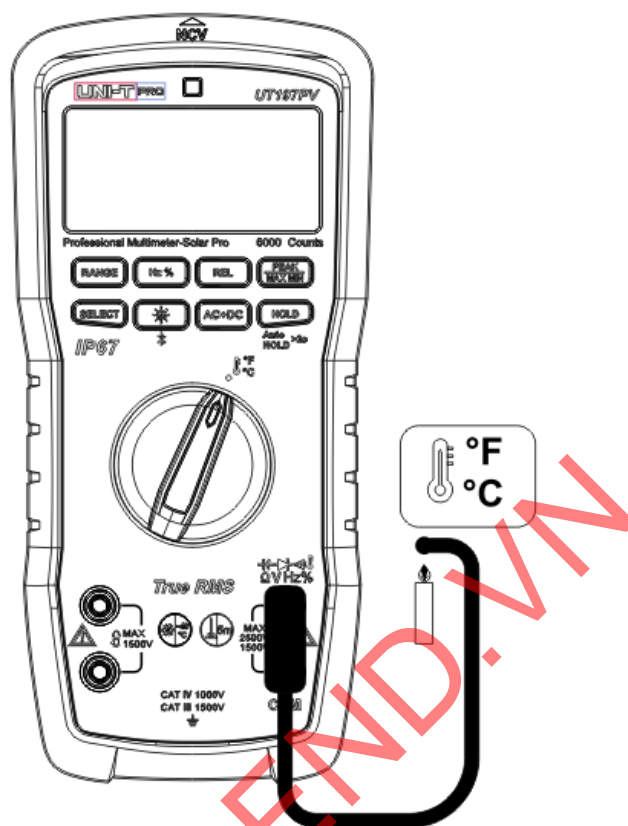

Figure 15
12. Temperature measurement (Figure 15)